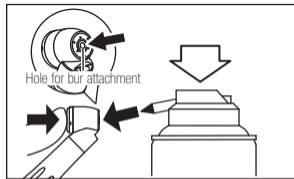

Fig. 12
- 2) Lubricate the chuck for 1 to 2 seconds directly through the bur insertion hole. (Fig. 12)